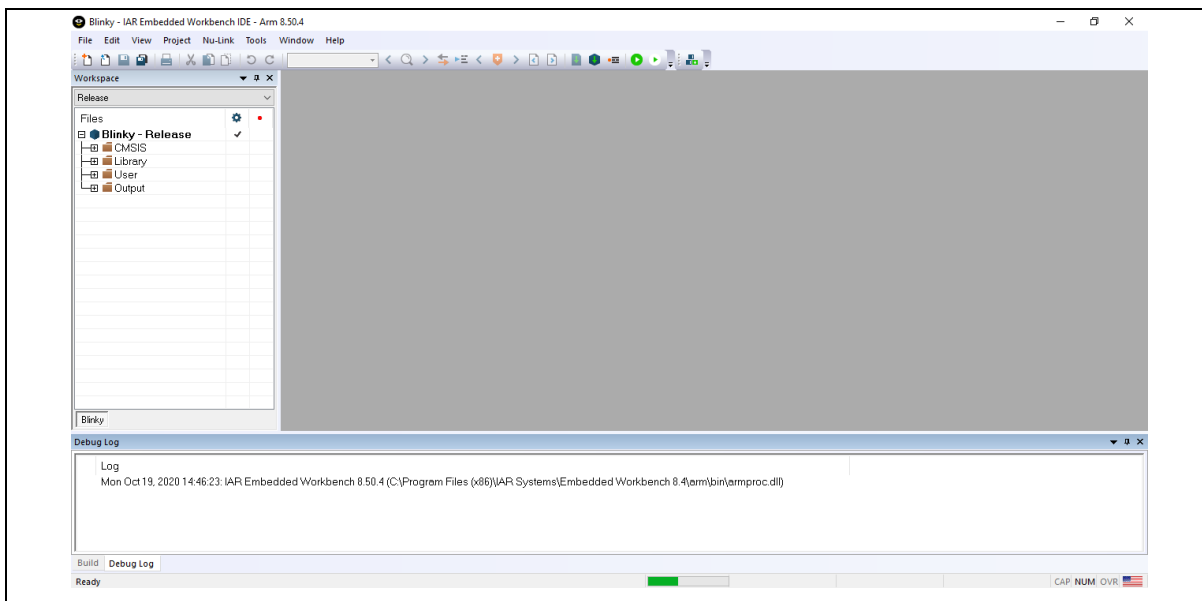

Figure 4-13 IAR EWARM Window
2. Make sure the toolbar contain “Nu-Link” item as shown in Figure 4-13.